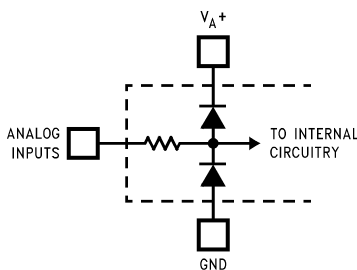

Figure 5.
- (1) Two on-chip diodes are tied to each analog input through a series resistor as shown below. Input voltage magnitude up to 5V above V_A^+ or 5V below GND will not damage this device. However, errors in the A/D conversion can occur (if these diodes are forward biased by more than 50 mV) if the input voltage magnitude of selected or unselected analog input go above V_A^+ or below GND by more than 50 mV. As an example, if V_A^+ is $3.0 V_{DC}$, full-scale input voltage must be $\leq 3.05 V_{DC}$ to ensure accurate conversions. See Figure 5.
- (2) To ensure accuracy, it is required that the V_A^+ and V_D^+ be connected together to the same power supply with separate bypass capacitors at each V^+ pin.
- (3) With the test condition for V_{REF} ($V_{REF}^+ - V_{REF}^-$) given as +2.500V the 12-bit LSB is 610 μV and the 8-bit LSB is 9.8 mV.
- (4) Typical figures are at $T_J = T_A = 25^\circ\text{C}$ and represent most likely parametric norm.
- (5) Tested limits are specified to AOQL (Average Outgoing Quality Level).